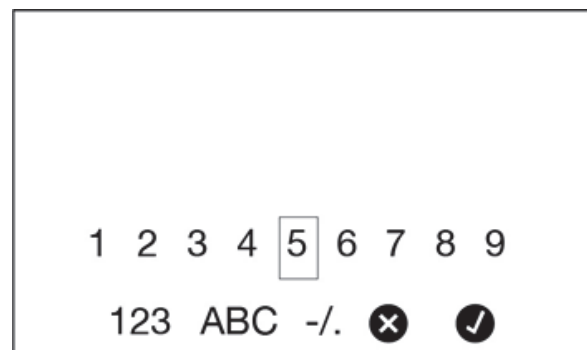

FIG. 47
2. The screen shown in FIG. 47 displays. This screen can be used to create a unique description for the PRESET.